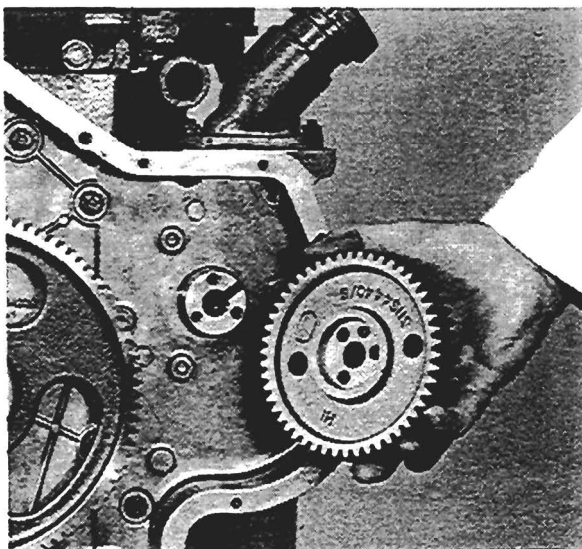

Fig. K7
4. Remove the fuel injection pump gear (see fig. K7). Ensure that no damage occurs to the dowel or key.